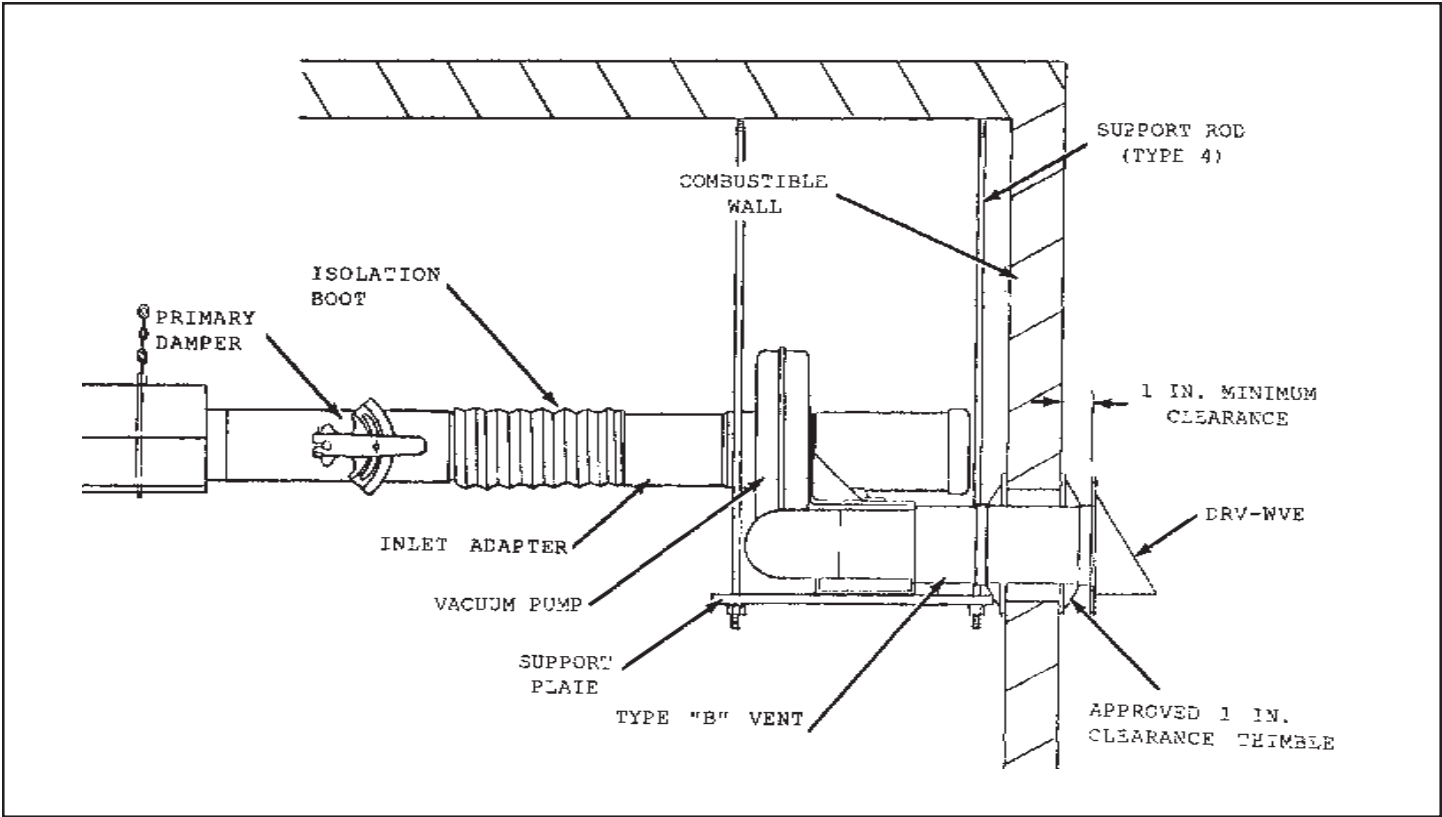

Figure 2.17
- It is recommended that single-wall aluminum vent material be used. The portion of the vent which goes through combustible material in the building wall or roof must pass through a type "B" vent sleeve with an approved 1 inch clearance thimble (see Figure 2.17 and 2.18).
- Horizontal venting must be terminated using a vent cap with flapper (DRV-WVE) and have a 1 inch clearance from combustible walls (see Figure 2.17). Through the wall venting shall **not** terminate over public walkways and **must** be at least 4 ft. below, 4 ft. horizontally from, or 1 ft. above any door, window or gravity air inlet into any building.